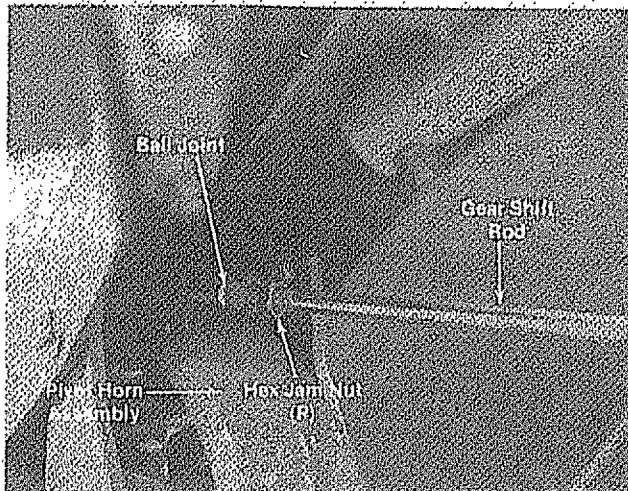

FIGURE 9
H. Thread hex jam nut (P) on one end of gear shift rod; then thread gear shift rod into ball joint on the top of pivot horn assembly, 10 to 12 complete turns, approximately 1/2 inch; See figure 9.